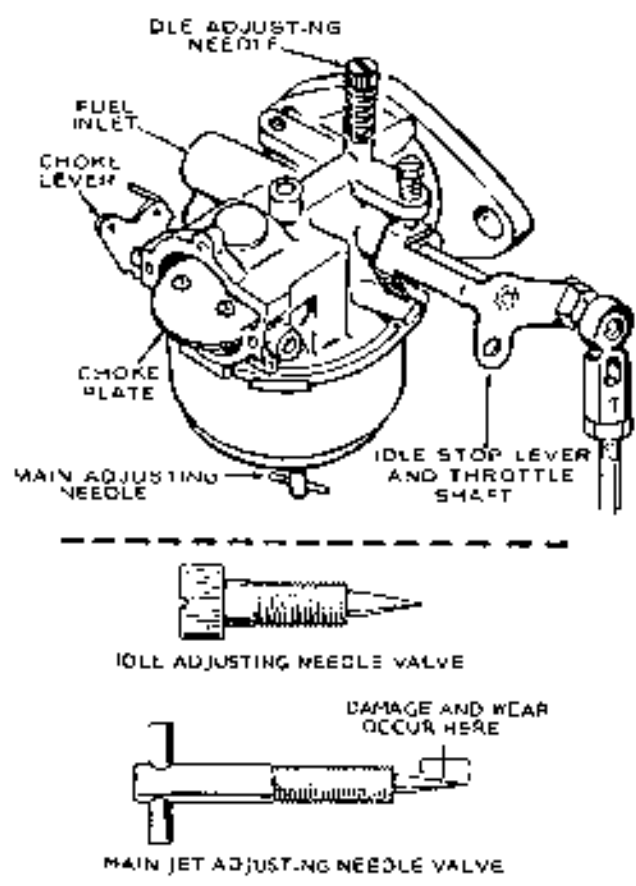

FIGURE 7-18. ADJUSTING NEEDLE INSPECTION
- b. Check adjusting needles and nozzle for damage, Figure 7-18. If the float is loaded with fuel or damaged, replace it. The float should fit freely on its pin without binding. Invert carburetor body and measure float level.